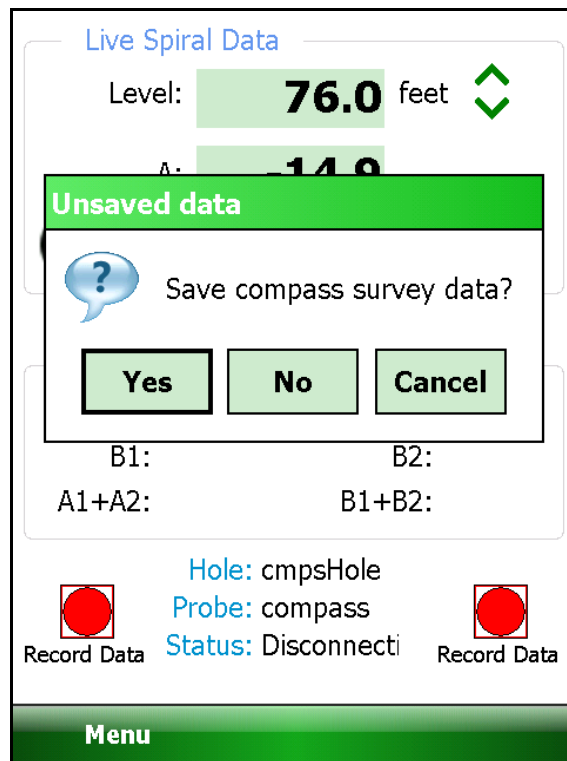

Figure 92 - Saving Compass Survey Data
8. When done the survey, tap "Menu->Exit Live Readings" and the screen shown in Figure 92 will be displayed. Tap "Yes" to save the compass survey data.